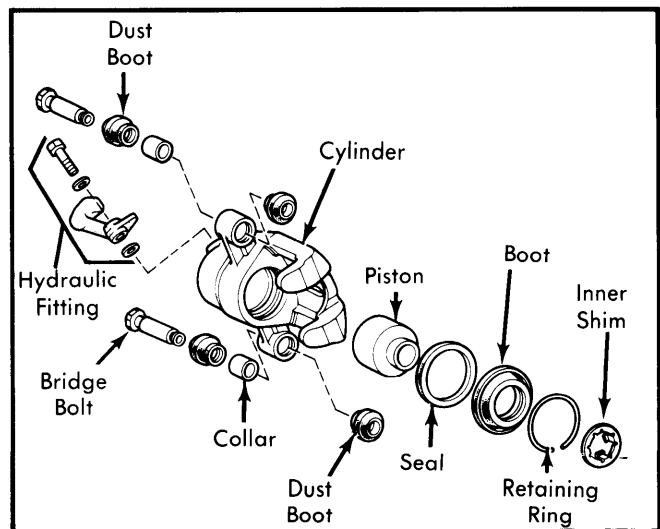

Fig. 16 Exploded View of Tercel Caliper Assembly
**Disassembly ("F" & "K" Types and Tercel)** — Remove retainer ring (if equipped) and boot. Apply light air pressure to fluid inlet port and expel piston from cylinder. Remove seal from cylinder without damaging bore. See Fig. 3, Fig. 4, Fig. 8 and Fig. 16.